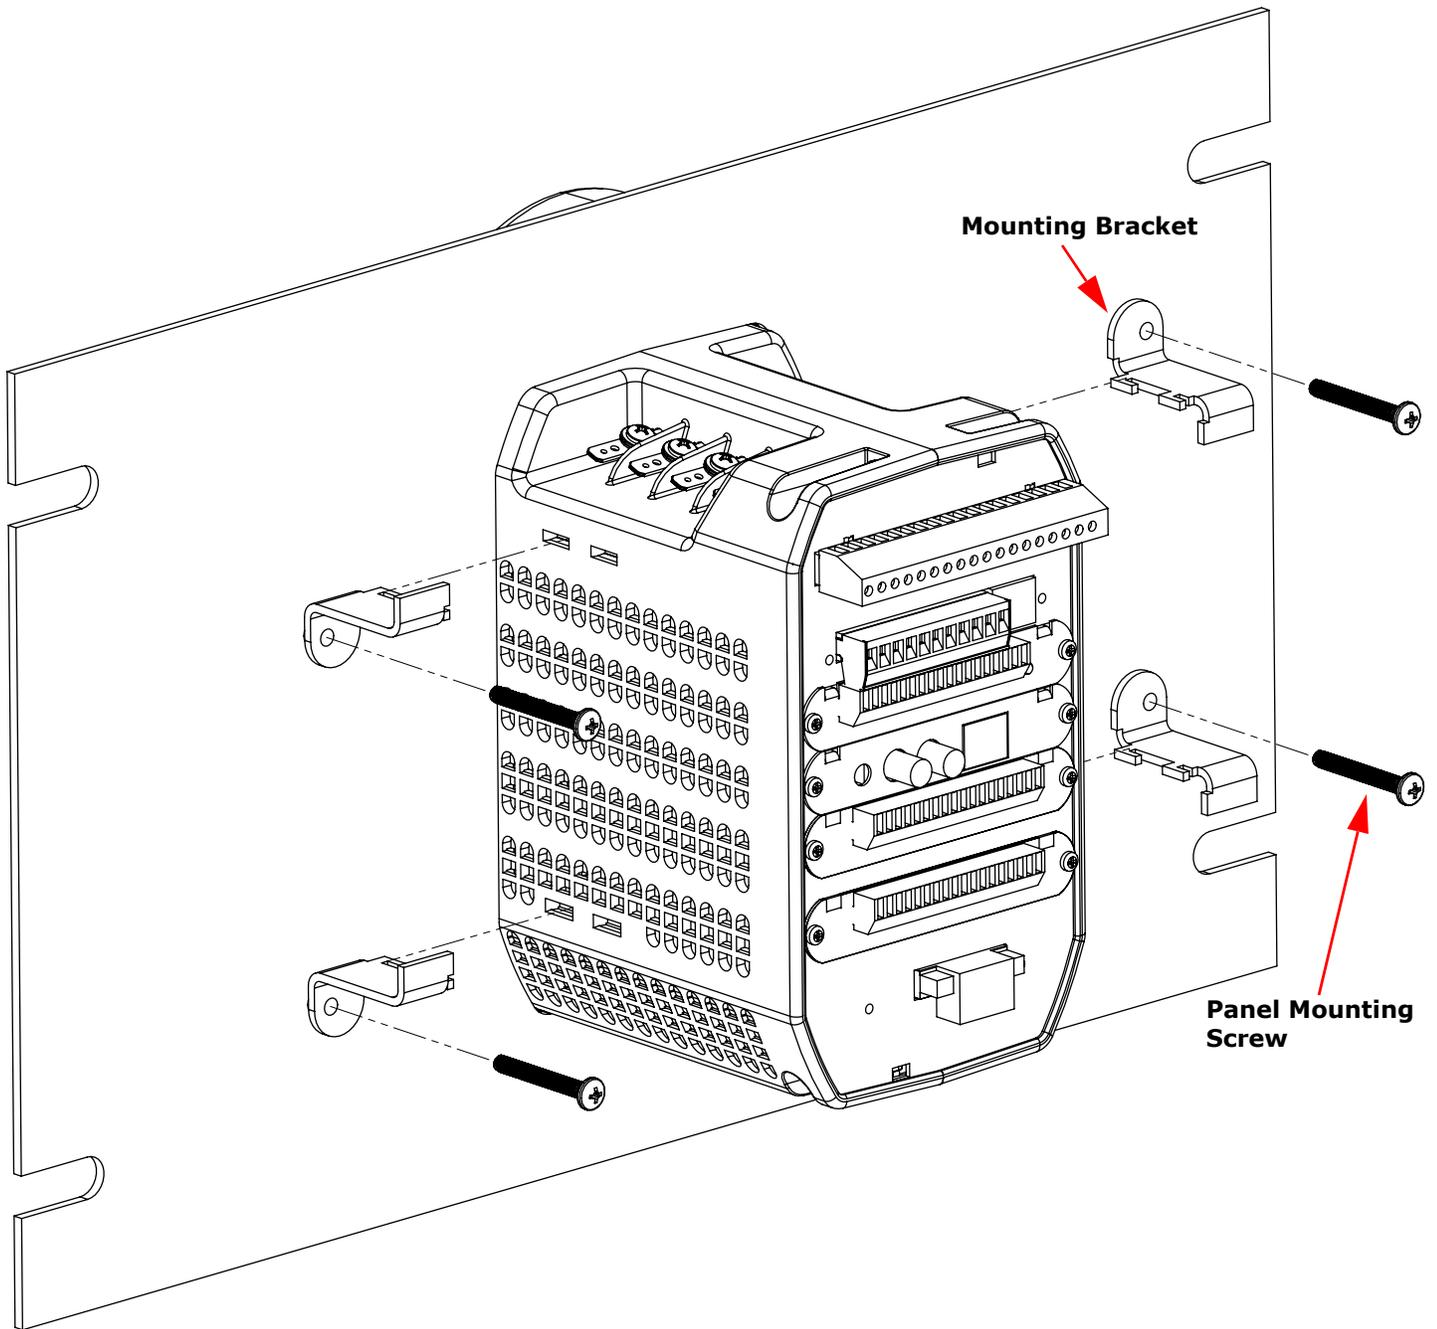

Figure 3.5: Mounting the Meter Vertically
1. Slide the meter into the panel. Note that you can mount the meter either horizontally or vertically (see figures 3.5 and 3.6).
4. Secure the meter to the panel with lock washer and a #8 screw in each of the 4 mounting brackets (see figures 3.5 and 3.6).